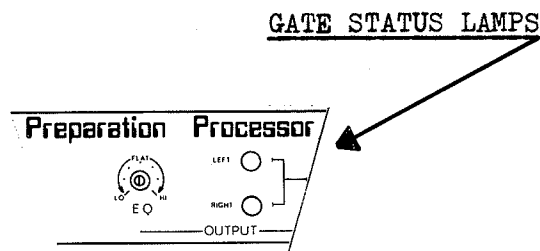

FIGURE 3-12 GATE STATUS LAMPS
3.4.3 Gate Status (Figure 3-12)